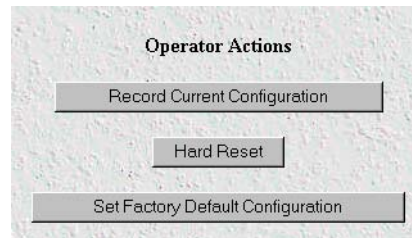

Figure 29. Operator Actions buttons
- **Record Current Configuration**—clicking on this button (see figure 29) saves the current configuration from volatile DRAM memory to FLASH memory. Once the configuration is saved into FLASH memory, the configuration will not be lost even if the power is cycled on the 6511RC. Initially, changes made to the 6511RC configuration are stored in volatile DRAM, enabling the user to set the box up with a working configuration before committing it to storage in FLASH. When you select **Record Current Configuration**, the 6511RC stores your changes to FLASH memory.
- **Hard Reset**—this button (see figure 29) causes the Model 6511RC to perform a cold restart. When you select **Hard Reset**, the Matrix Switch confirms that you want to execute this command. Then, the Matrix Switch will disconnect all current sessions, re-initialize the interfaces, and re-load configuration parameters from FLASH.
- **Set Factory Default Configuration**—this button (see figure 29) clears out the configuration in FLASH and loads the factory default parameters into FLASH memory. The factory default settings will not execute on the Model 6511RC until it is re-booted by doing a Hard Reset.
Note **Set Factory Default Configuration** (figure 29) will delete the Model 6511RC's Ethernet IP address, any routing information, and any other site-specific configuration changes made for your particular installation. You will have to re-enter the Model 6511RC's Ethernet IP address and netmask using the front-panel control port in order to gain access the HTTP/HTML Management pages again.